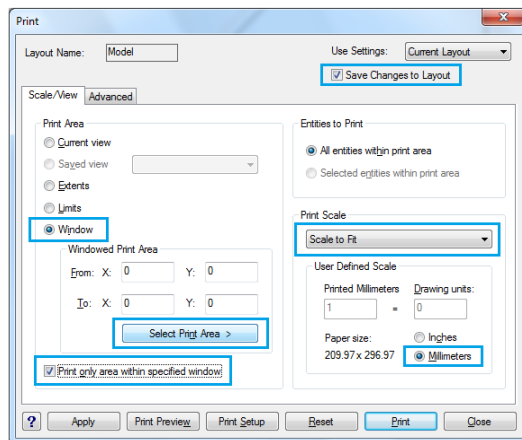

Fig. 317 – Print dialog box
- the **Print** dialog box will open (Fig. 317);